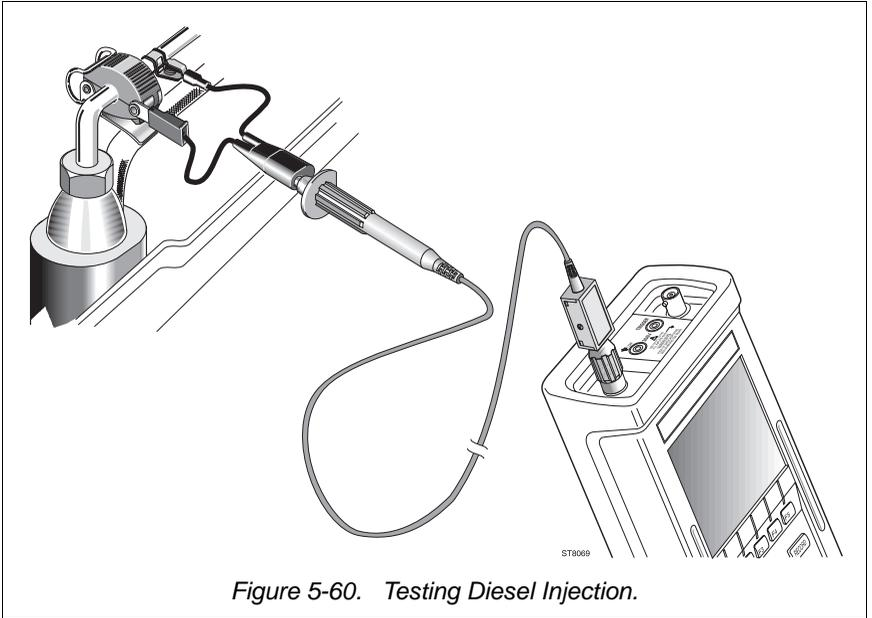

Figure 5-60. Testing Diesel Injection.
- ⑥    SELECT
- ⑦    SELECT
- ⑧ Connect the test leads as displayed by the test tool's Connection Help and shown in Figure 5-60.
- ⑨  Starts the Diesel Injector test.